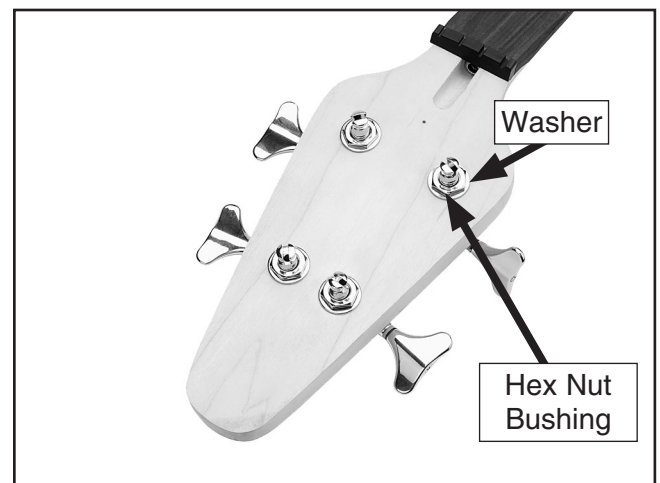

Figure 18. Tuners installed on headstock.
6. Turn the neck face up, slide a washer over each tuner post and screw a hex nut bushing onto each tuner, as shown in **Figure 18**.